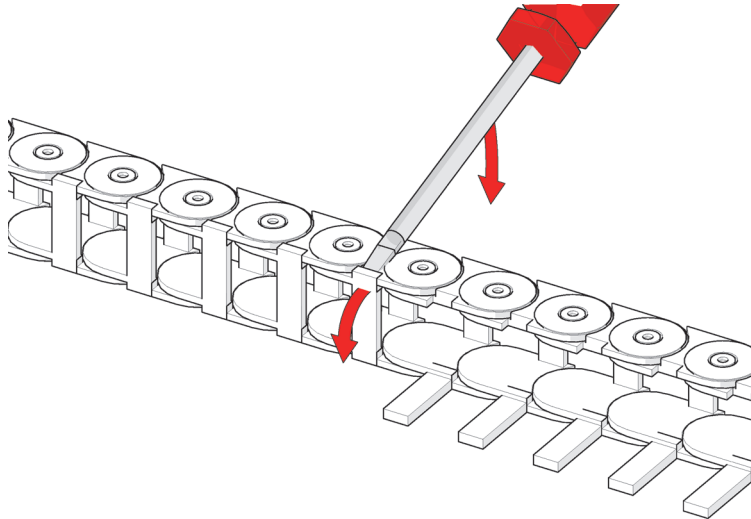

Figure 2-44 Unclip flaps from cable tray
1. Using a small 3 mm flat screw driver, unclip the flaps of the cable tray (see Figure 2-44 on page 85).